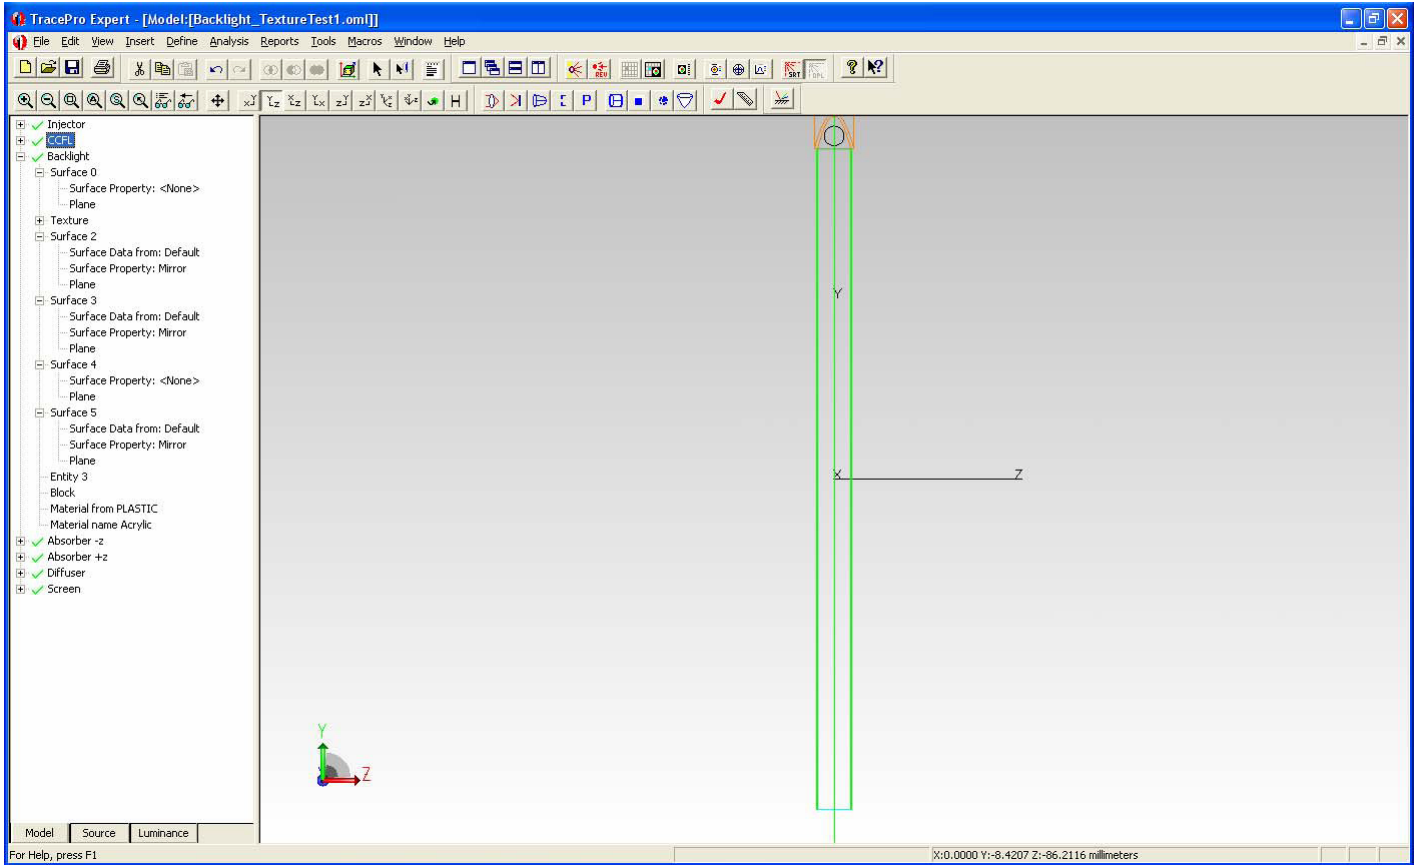

Figure 4. System Tree results for the surfaces of Backlight (except Texture).
16. As per Fig. 4, inspect the System Tree such that the properties for Backlight are as shown (Note: Fig. 4 also shows all of the other objects that we will define in this section.)